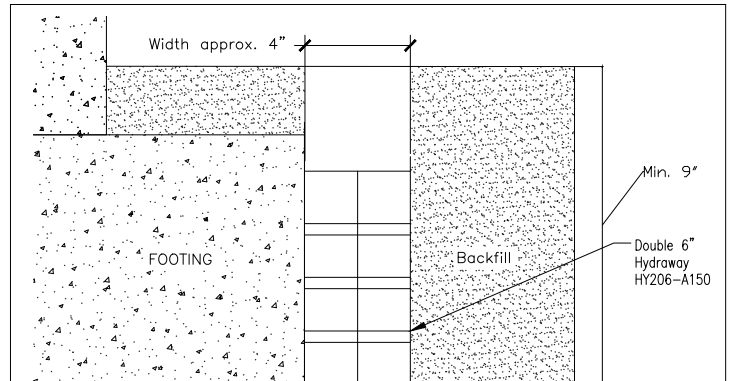

Figure 1A. Double roll of 6-inch Hydroway flush to footing.
3. Use two 6-inch rolls of Hydroway and roll them out together. Secure the rolls to each other with HydraTape. The double rolls should be placed vertically in the 4-inch trench. Hydroway should be placed flush to the footing with the top edge of Hydroway to the top of the footing (See Figure 1A) or off set from the footing by 12-14 inches (See Figure 1B). Hydroway needs to be run from one end of the pit all along the perimeter of the crawspace until it ends up back at the sump pit. Hydroway will bend around the corners, however, a crawspace could have a geometry that may require a corner fitting. Each roll of Hydroway comes in 150-foot lengths and if one roll of material is not enough to complete the entire crawspace perimeter, secure a splice fitting with HydraTape to connect additional rolls of Hydroway (See Figures 2 and 3).